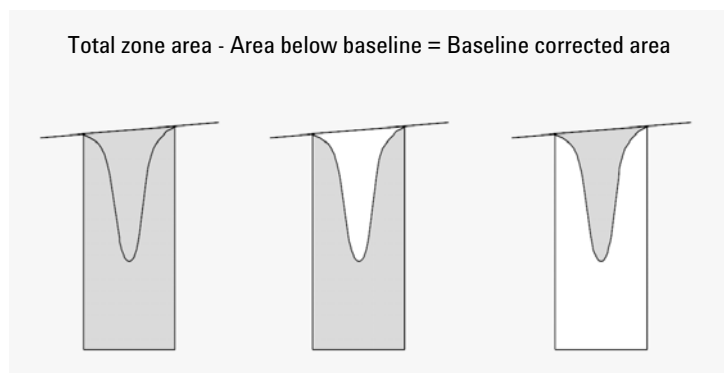

Figure 12 Area Measurement for Negative Peaks
- for tangent (T) peaks, the area above the reset baseline,
- for solvent (S) peaks, the area above the horizontal extension from the last-found baseline point and below the reset baseline given to tangent (T) peaks. A solvent peak may rise too slowly to be recognized, or there may be a group of peaks well into the run which you feel should be treated as a solvent with a set of riders. This usually involves a merged group of peaks where the first one is far larger than the rest. The simple drop-line treatment would exaggerate the later peaks because they are actually sitting on the tail of the first one. By forcing the first peak to be recognized as a solvent, the rest of the group is skimmed off the tail,
- negative peaks that occur below the baseline have a positive area, as shown in Figure 12 on page 32.